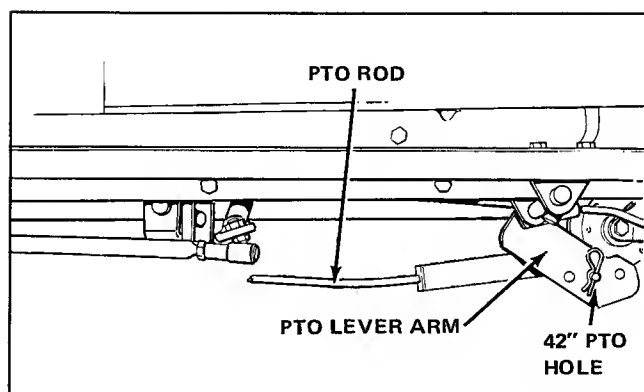

Figure 9. Attaching PTO Rod
10. Attach the PTO rod guide to the PTO lever arm with a spring clip, using the center hole of the arm, as shown in figure 9. The setscrew on the PTO rod (Figure 53) should be facing straight up.